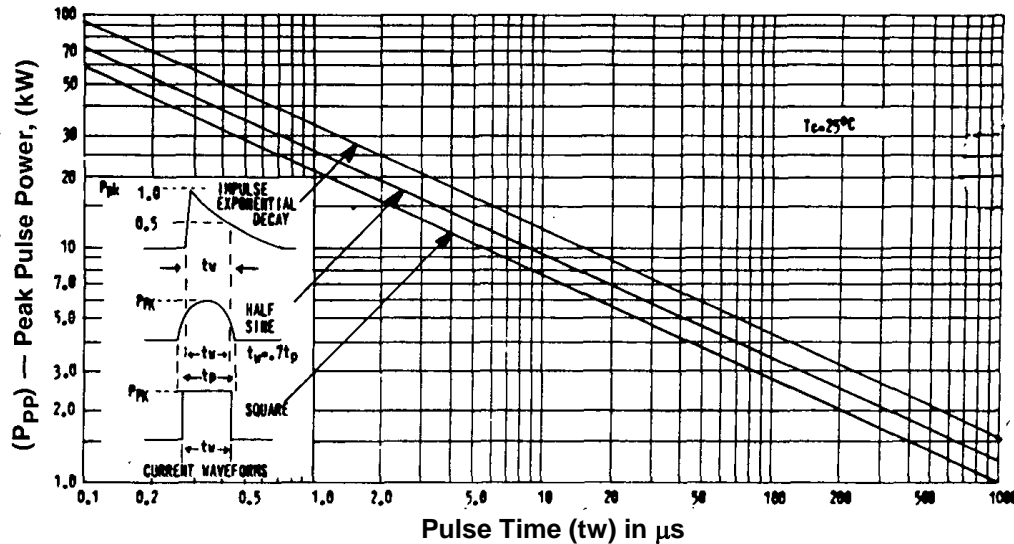

FIGURE 1 - Peak Pulse Power vs. Pulse Time ( $t_w$ ) in  $\mu s$
- Peak Pulse Power dissipation at 25 °C: 1500 watts at 10/1000 µs (see Figure 1) with impulse repetition rate of 0.01% or less\* at lead temperature TL of 25°C